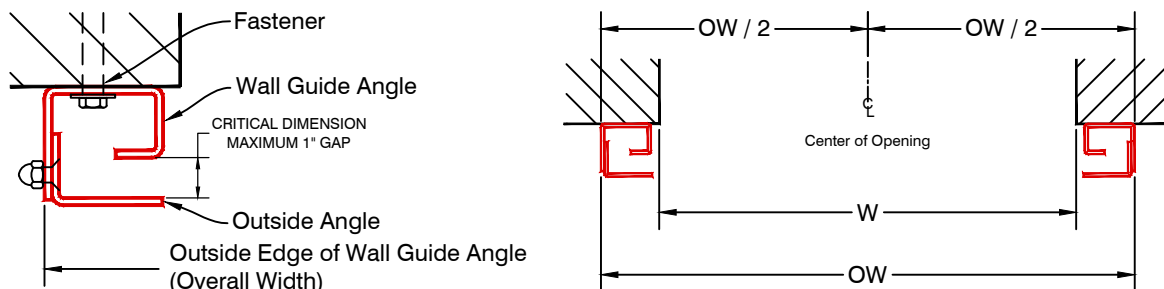

Fig. 1
1) Locate and mark the center of the opening (φ). Divide the OW dimension by 2 ($OW/2$). Measure the $OW/2$ distance from the center mark to the face of the wall, this is the location of the outside edge of the wall guide angle as shown in Fig.1. Mark a level and plumb line through this point at each jamb.